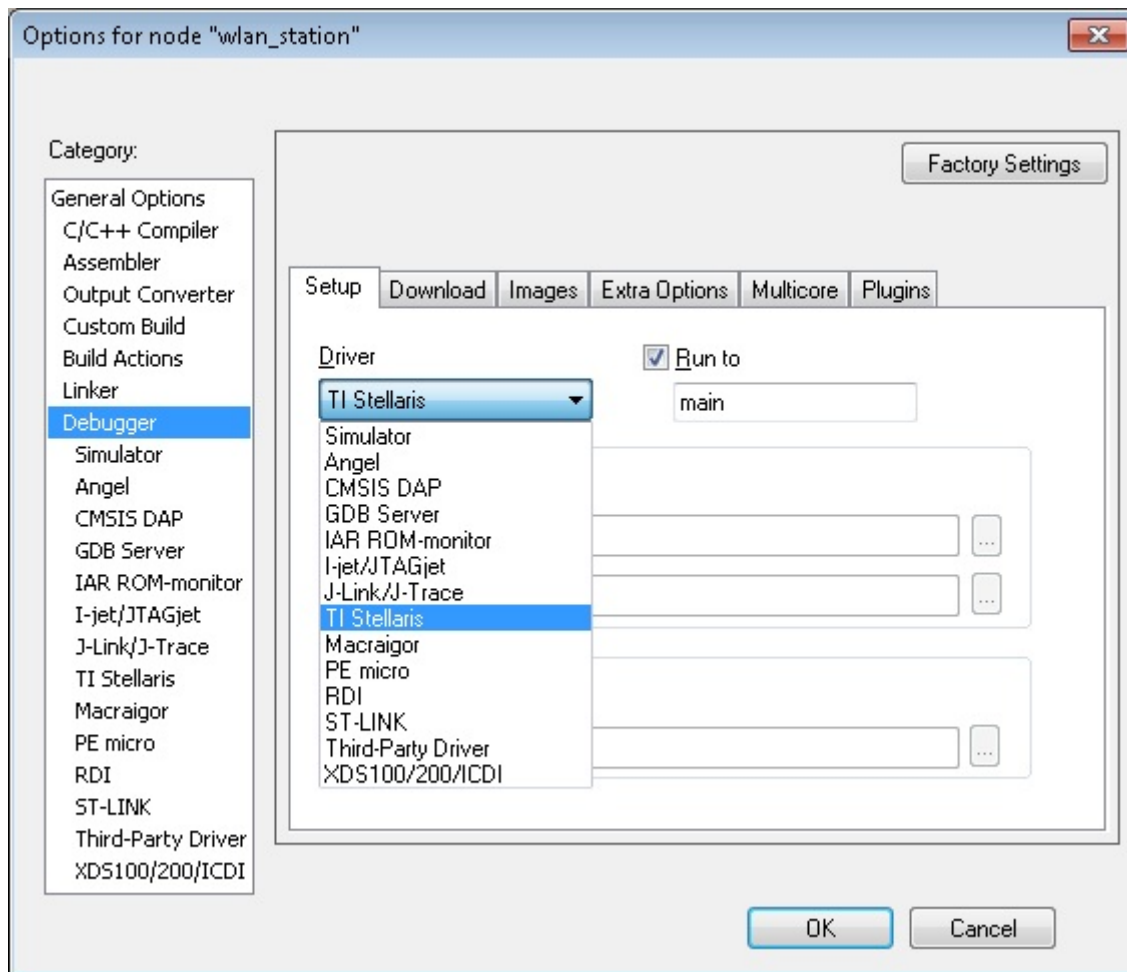

Figure 22. Select TI Stellaris Driver
6. The debugger must be configured to download code to the device. Select Project>Options from the menu, and select the Debugger category. In the Setup tab, choose TI Stellaris as the driver, as shown in Figure 22, and press OK.